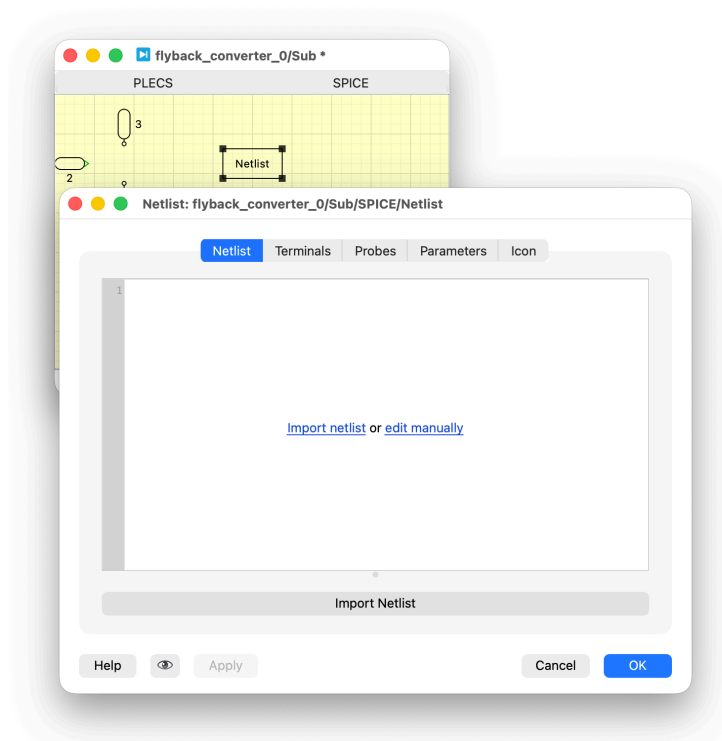

Figure 4: Netlist window
- 7 **Double-click** on the **Netlist** component to open the netlist window as shown in Fig. 4. **Click** on **Import Netlist**, select the desired netlist library file, e.g., Infineon_CoolMOS_C3_600V_Spice.lib.